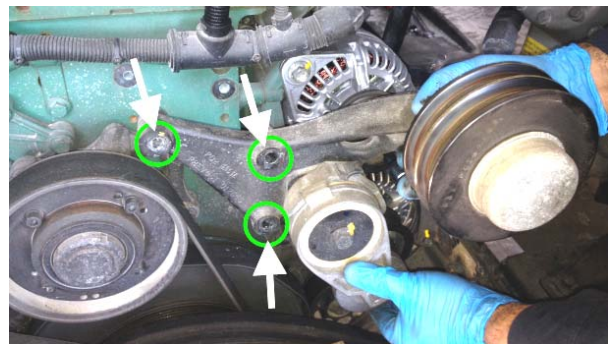

FIGURE 2
1. Remove the A/C compressor belts and then remove A/C compressor idler pulley bracket assembly (3 bolts to be removed, FIGURE 2).